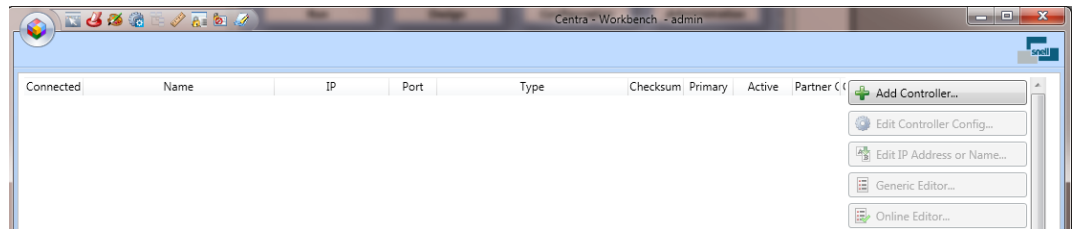

Fig 43. Workbench Configuration Screen
2. Click on the **+Add Controller...** button on the right of the Workbench Configuration screen (Fig 43.) and the Controller Wizard screen will start.